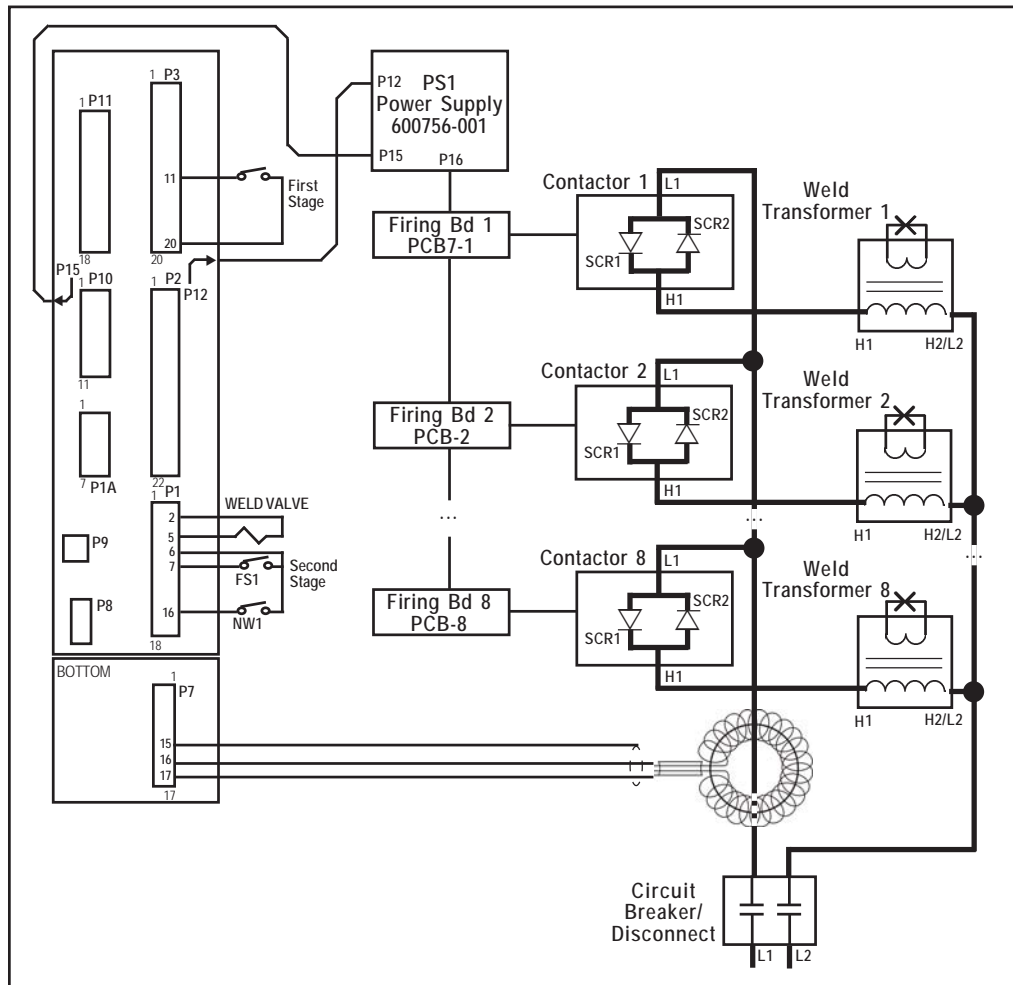

Figure 6-1. *Basic connections*
1. Make basic connections as shown in Figure 6-1. Additional connections (see Section 4.5.3) may be needed, depending on installation requirements, but connections shown are the most basic which are required in order to run equipment. For your convenience, many electrical and mechanical connections have been performed at the factory. Refer to Wiring Diagram for other connections.
5. Place the control in No Weld. Use either RPP2's WELD/NO WELD feature (see Section 5.1) or External Weld/No Weld Switch connected to Terminal Strip between NW1 and FSC (see Figure 6-1).